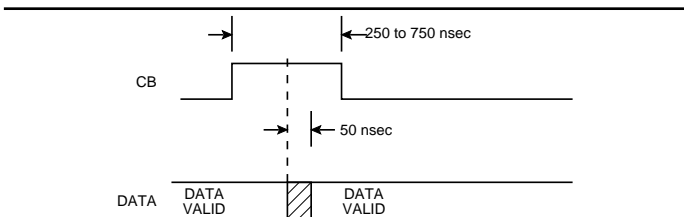

FIGURE 20. CONVERTER BUSY TIMING
The Converter Busy (CB) signal indicates that the tracking converter output angle is changing 1 LSB. As shown in FIGURE 20, output data is valid 50 ns maximum after the middle of the CB pulse. CB pulse width is $1/40 F_S$, which is nominally 375 ns.